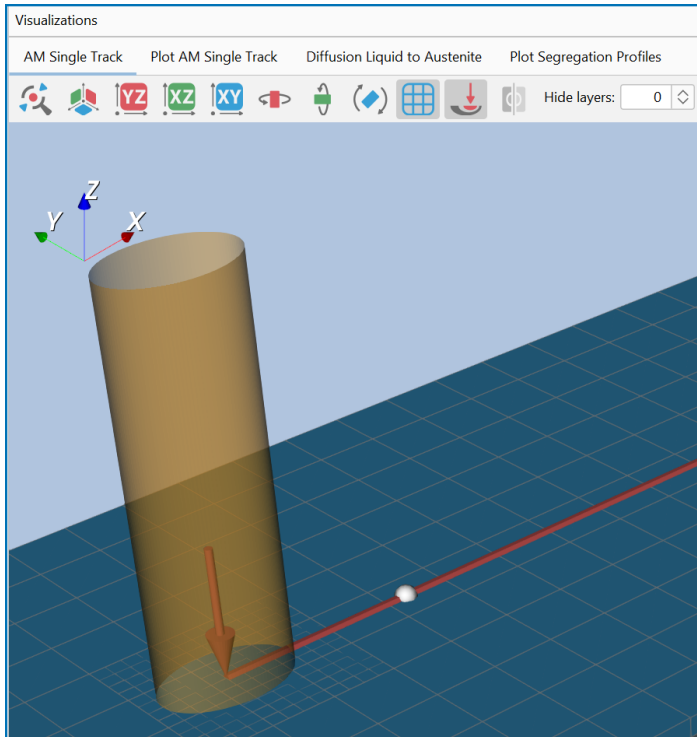

Figure 99: Close up of the probe point added to the geometry for the single track AM simulation.
- **Probes:** Probes are added to the AM Calculator during the set up either by entering coordinates or directly adding these to the geometry. See Figure 99 and Figure 100 for example.